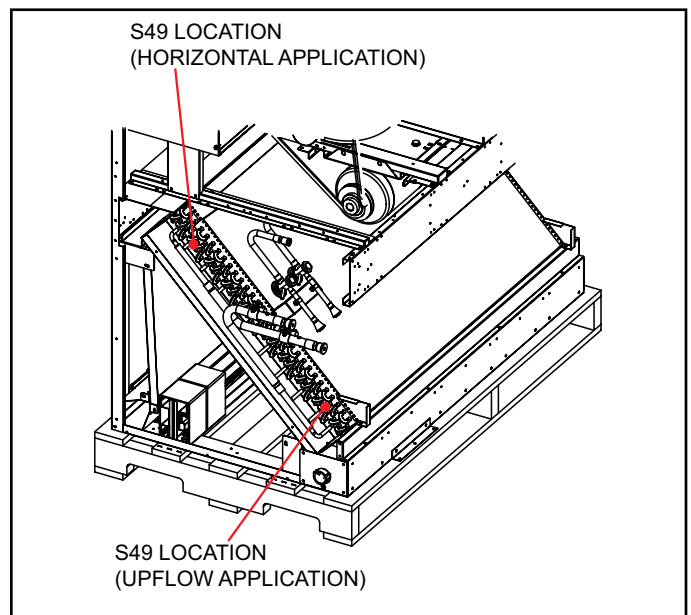

FIGURE 6. Location of S49 Freezestat
- 2 - Connect S49 and S50 freezestats to appropriate connections in harness. S49 will be located at lower end of coil, depending on upflow or horizontal orientation. S50 will be located at the top of the coil. See figure 6.
- 2 - Connect S49 and S50 freezestats to appropriate harness connections. S49 will be located at lower end of coil, depending on upflow or horizontal orientation. See figure 6.